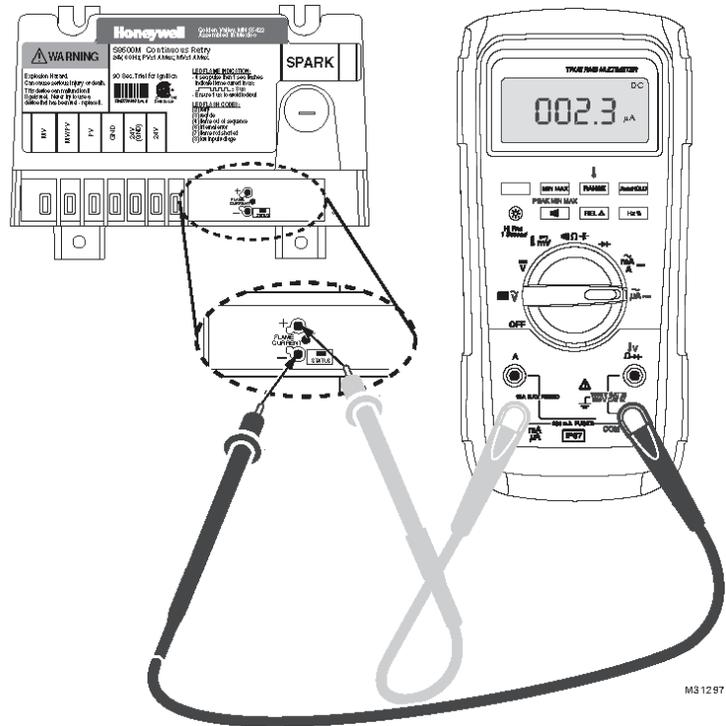

Figure 10-3: Measuring Pilot Flame Current with Micro-ammeter
### 1. Flame Current Measurement Procedure. See Figure 10-3 “Measuring pilot flame current with micro-ammeter”
- a. Pilot flame current in micro amps can be measured using any standard micro-ammeter by inserting meter probes into module holes labeled FLAME CURRENT as shown in Figure 10-3.